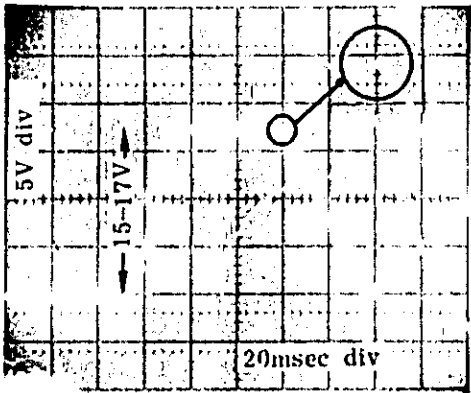

Figure 5-16. Dynamic Range Adjustment.
d. If peak-to-peak value of waveform is not within 15 - 17 volts or peak at right top of waveform cannot be recognized when changing VOLTS/DIV to 0.2V and POSITION of oscilloscope, increase A6R7\* value for more amplitude or decrease A6R7\* for less amplitude. (See Figure 5-16).
g. If peak-to-peak value of waveform is not within 15.4 - 17.5V or peak at right top of waveform cannot be recognized when changing VOLTS/DIV to 0.2V and POSITION of oscilloscope, increase A7R7\* value for more amplitude or decrease A7R7\* for less amplitude. (See Figure 5-16).